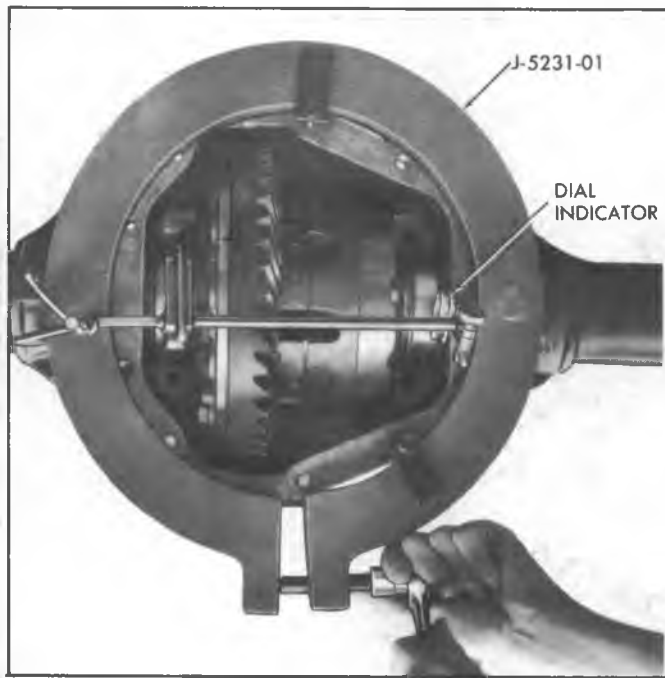

Fig. 2D--Spreader J-5231-01 Mounted on Carrier
7. Using spreader Tool J-5231-01 and dial indicator as shown in Figure 2D, spread carrier a maximum of .020".
1. Spread differential carrier, using spreader as shown in Figure 2D.